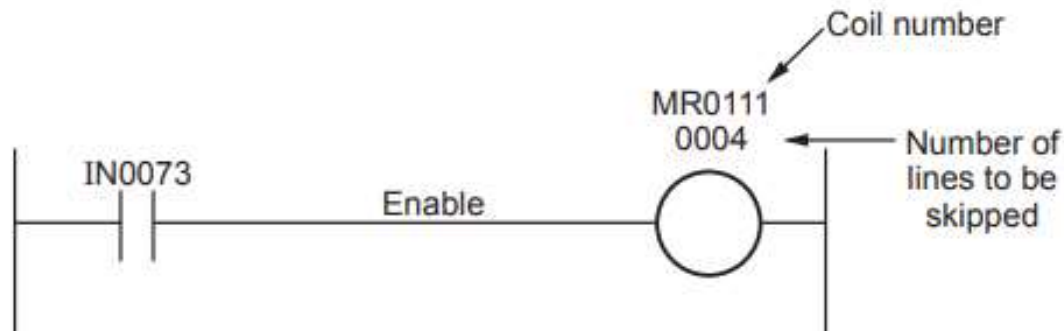

Fig. 4.17.1 Master Control Relay
- Fig. 4.17.1 shows typical MCR function.